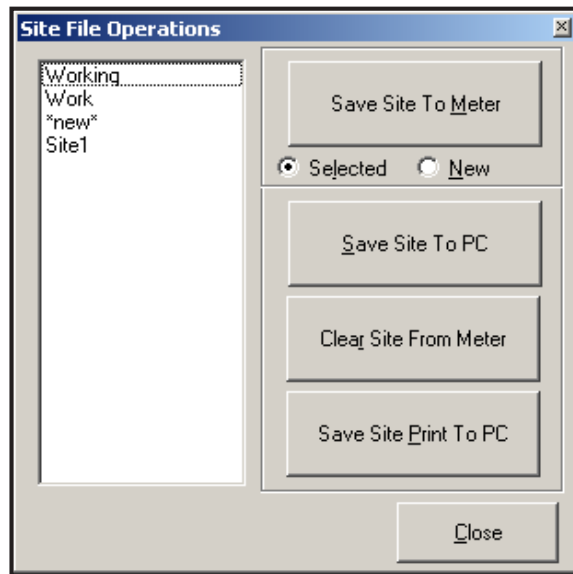

Figure 31: Site File Operations Window
To access site files, click on the *Site Files* button in the *Properties* window. The *Site File Operations* window (shown in Figure 31) opens.
1. Highlight the desired site in the left pane. (See Figure 31 on page 110.)
1. Highlight the site in the left pane. (See Figure 31 on page 110.)